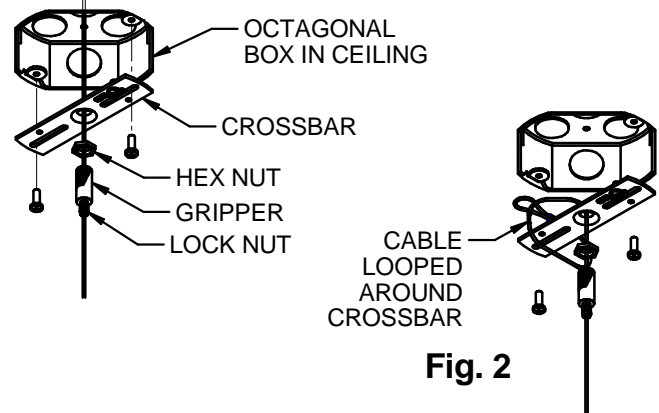

Fig. 2
2. Loop the 20 foot galvanized cable around a nearby structural member at the installation location (**Fig. 1**). Assemble the crossbar and threaded gripper as shown, using the hex nut to lock the gripper in position. Loosen the gripper cable lock nut and feed the cable through the gripper as shown, and secure the crossbar assembly to a properly installed 4" octagonal box (by others) designed to support the weight of the fixture. **NOTE:** The cable can be looped around the crossbar if no structure is conveniently available, or if there is no above-ceiling access (**Fig. 2**).